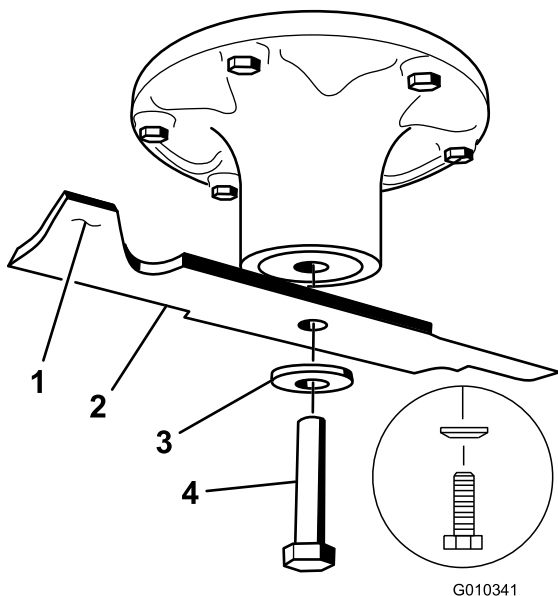

Figure 55
Hold the blade end using a rag or thickly-padded glove. Remove the blade bolt (rotating it counter-clockwise), curved washer, and blade from the spindle shaft (Figure 55).
Note: If the blade stays in a horizontal position, the blade is balanced and can be used. If the blade is not balanced, file some metal off the end of the sail area only (Figure 55). Repeat this procedure until the blade is balanced.
1. Install the blade onto the spindle shaft (Figure 55).
Note: The spring disk cone must be installed toward the bolt head (Figure 55).